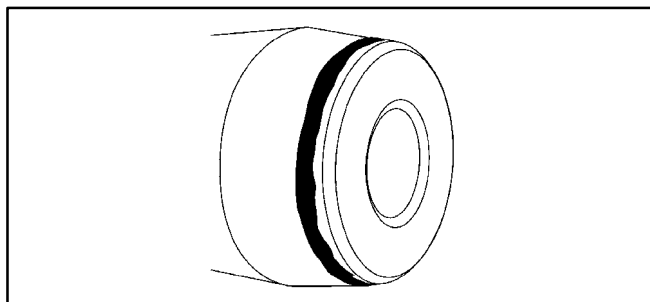

FIGURE 7-34. NOSE OF CRANKSHAFT
- B. Apply a light 2 to 3 mm (0.79 to 0.118 in) bead of LOCKTITE® 680 retaining compound around the leading edge of the crankshaft nose (Figure 7-34). Place the pulley or pulley/damper on the nose of the crankshaft.